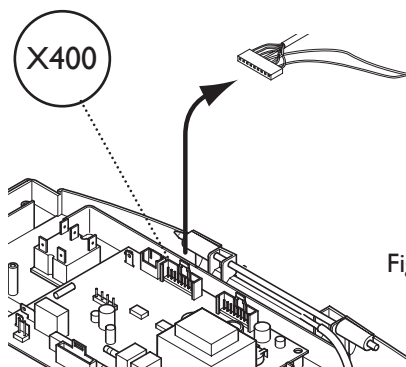

Fig. 5
5. Disconnect the harness connector from position X400 on the PCB (Fig. 5).